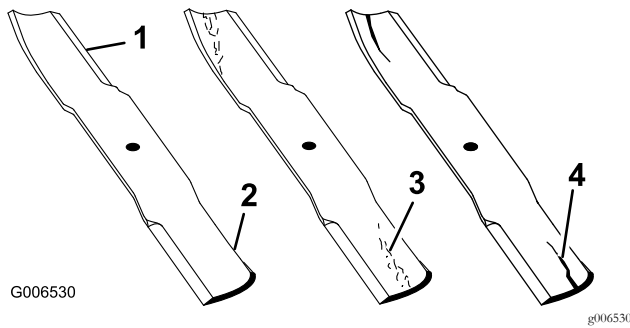

Figure 46
1. Inspect the cutting edges (Figure 46). If the edges are not sharp or have nicks, remove and sharpen the blades; refer to **Sharpening the Blades**.
2. Inspect the blades, especially the curved area. If you notice any damage, wear, or a slot forming in this area (item 3 in Figure 46), immediately install a new blade.